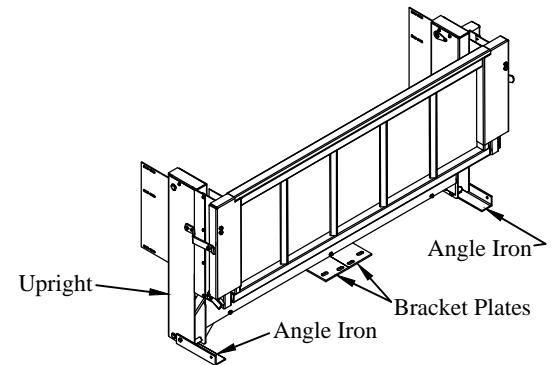

Figure 2: Complete liftgate (G2 shown).
4. Unbolt the two (2) angle irons attached to the liftgate uprights (Figure 2).
6. Remove the two (2) bracket plates attached to the liftgate (Figure 2).